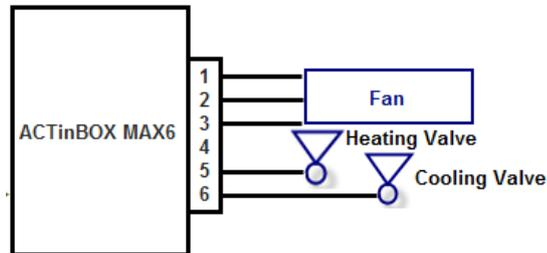

Figure 1.3. ACTinBOX MAX6 to 4-pipe Fan Coil connection
As shown in the figure 1.3, the correspondence of the actuator outputs to its connection with the Fan Coil are:
**Note:** *In case the Fan Coil is a 2-pipe system, it will be only necessary to control the open/close of one valve, so output 5 can be configured independently, in the same way that output 4 (see figure 1.3).*
**4-pipe Fan Coil:** the system to control is composed of two valves (one for cooling and one for heating). This implies that 5 of the 6 outputs of the actuator shall be connected in the next way. from 1 to 3 to control the fan speed and the outputs 5 and 6 to control the cooling and heating valves (see figure 1.3); therefore, there will be a free output, which can be enabled or not by parameter.